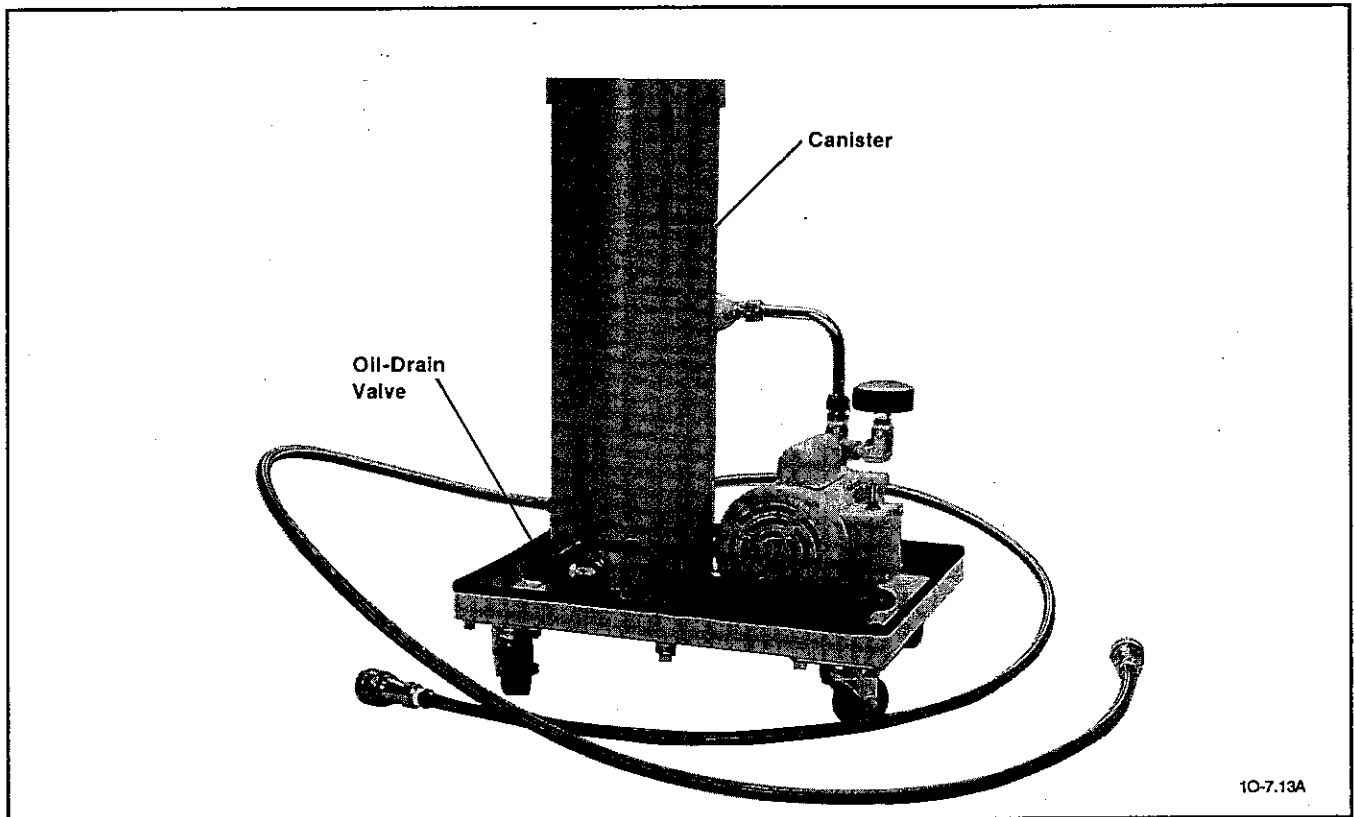

Figure 4-2. OF-3000 Back View Showing the Oil-Drain Valve
- b. If you need to change the oil, drain the oil from the canister by removing the pipe plug from the OF-3000's oil-drain valve, attaching a drain line to the threaded port, and opening the drain valve (see Figure 4-2). After the oil has drained, shut the valve; then, reinstall the pipe plug to prevent accidental opening.